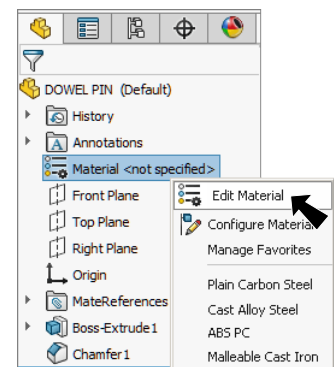

Fig. 10
Step 1. **Right click** **Material**  in the Feature Manager and click **Edit Material**, **Fig. 10**.